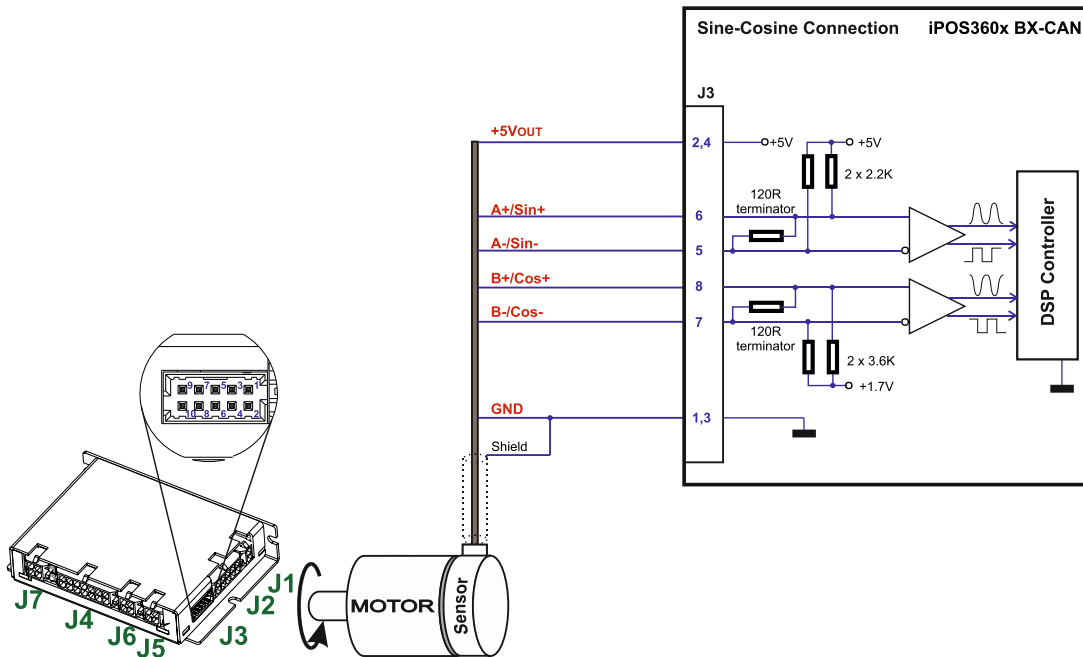

Figure 3.23. Sine-Cosine analog encoder connection
- a. connecting all digital Hall inputs to GND, as shown in **Figure 3.23**. This option is particularly useful when you are unable to establish communication with the drive.